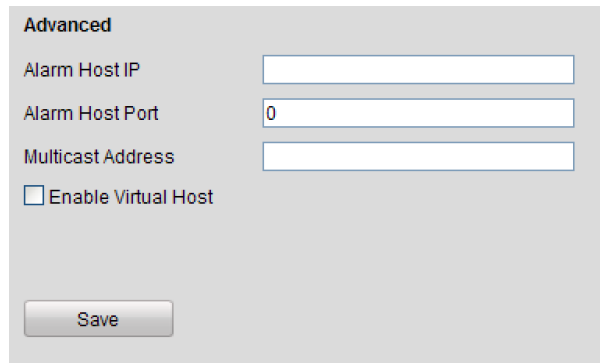

Figure 12-23 Advanced Settings Interface
Step 1 Enter the Advanced settings interface, as shown in the Figure 12-23.